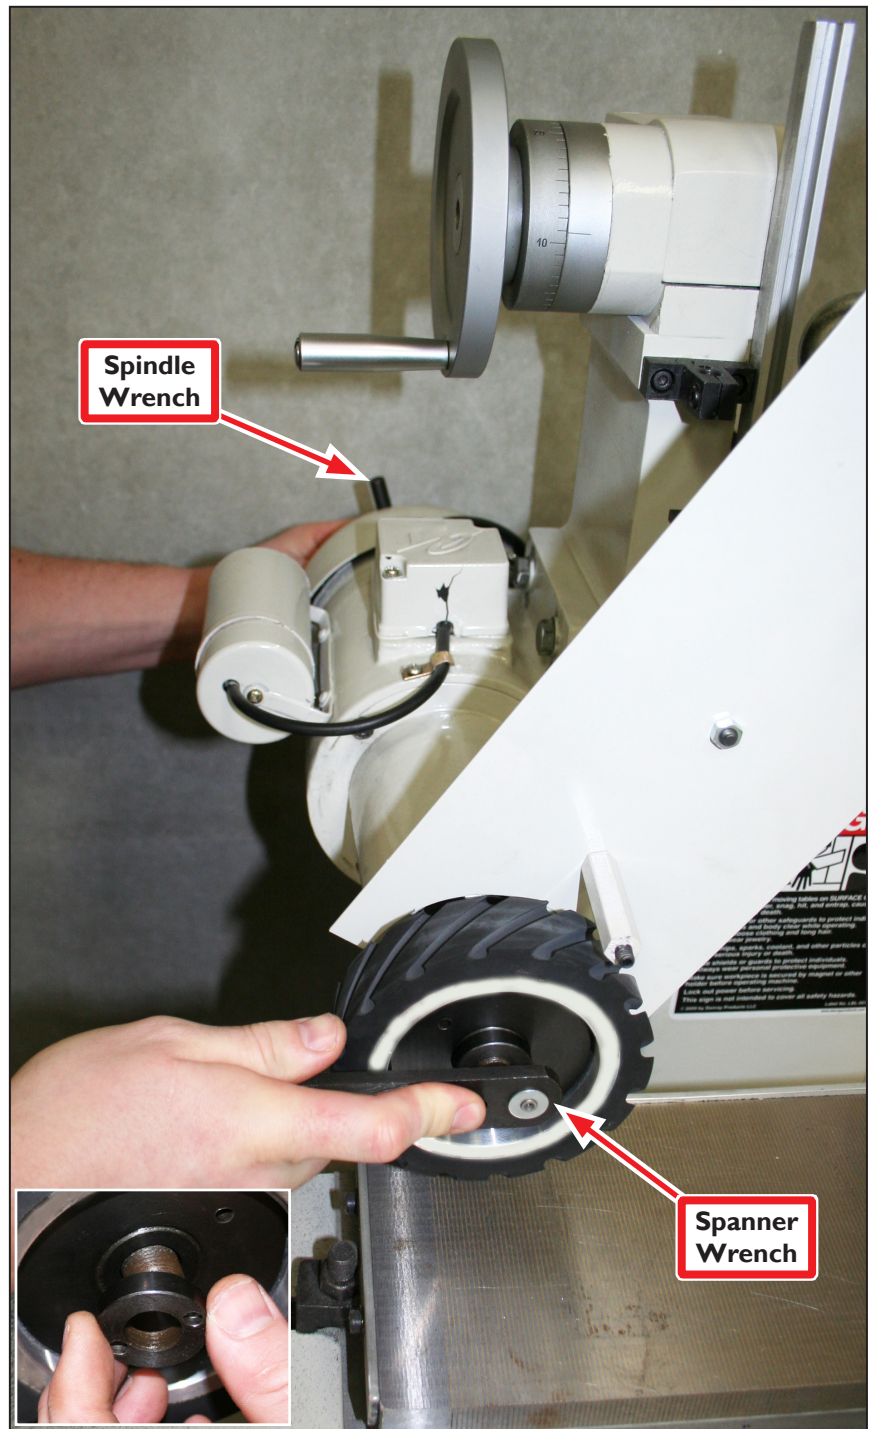

Figure 7
7. Install the Hub Assembly (from step 4) onto spindle (see **Figure 7**); screw on Spindle Nut (see **Figure 7 inset**).
8. Tighten assembly with Spanner Wrench on attachment side and Spindle Wrench on opposite side as shown in **Figure 7**.